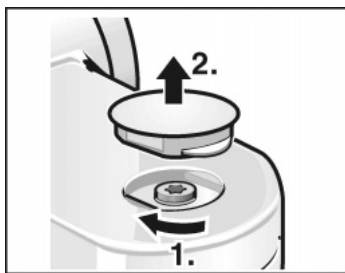

Figure 10
2. Depress the release button, see 4a, and move the arm as necessary so that the arm is horizontal. If you have not already done so, remove the motor drive cover from the mid-speed drive, as shown in figure 10.